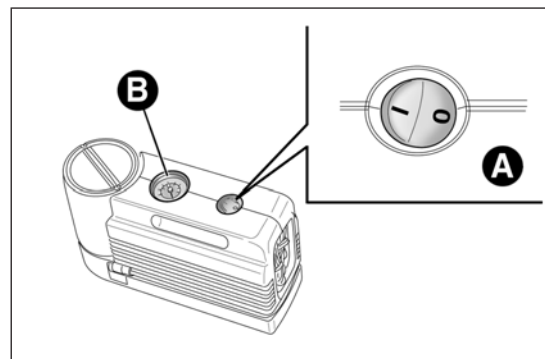
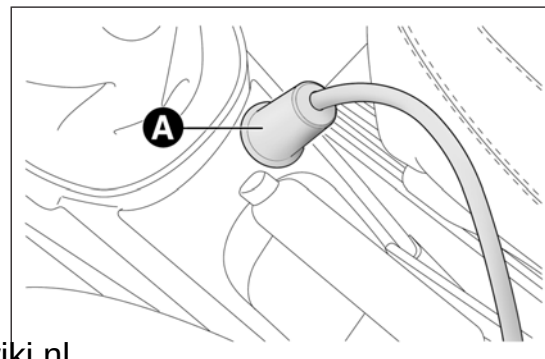

fig. 127
fig. 128
- make sure that switch A fig. 127 for the compressor is in position 0 (off), start the engine, insert the plug A fig. 128 into the power socket on the central tunnel and switch on the compressor by bringing switch A fig. 127 to position I (on);
- inflate the tyre to the pressure indicated in the "Wheels" paragraph in the "Technical specifications" section. In order to obtain a more precise reading, check the pressure value on pressure gauge B fig. 127 with the compressor off;